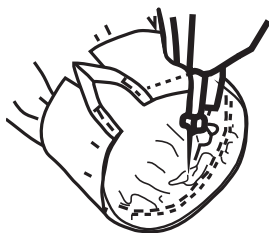

Figure 24
3. Fold the placket bindings or facing over the ends of the band and pin (Figure 24).